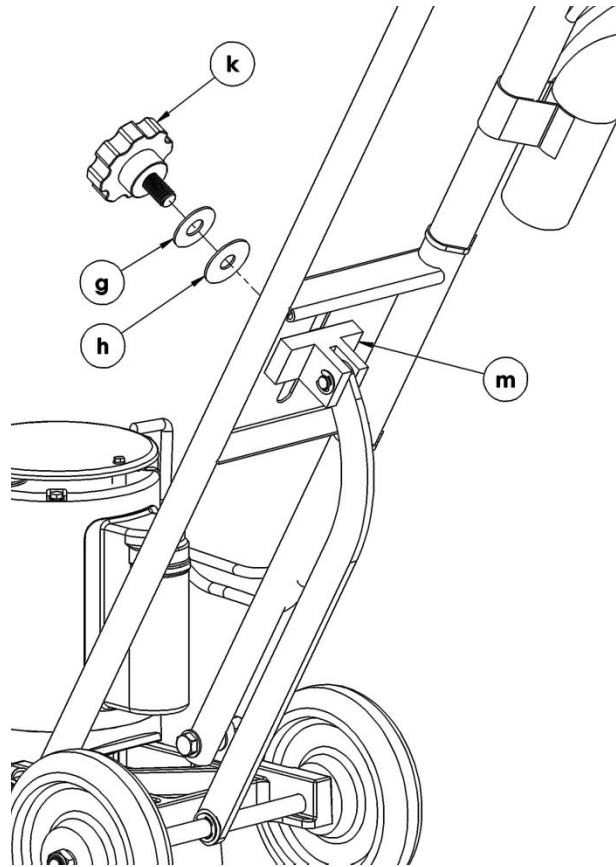

Figure 5.
4. Attach the Handle Brace to the Handle Assembly (Figure 5.).